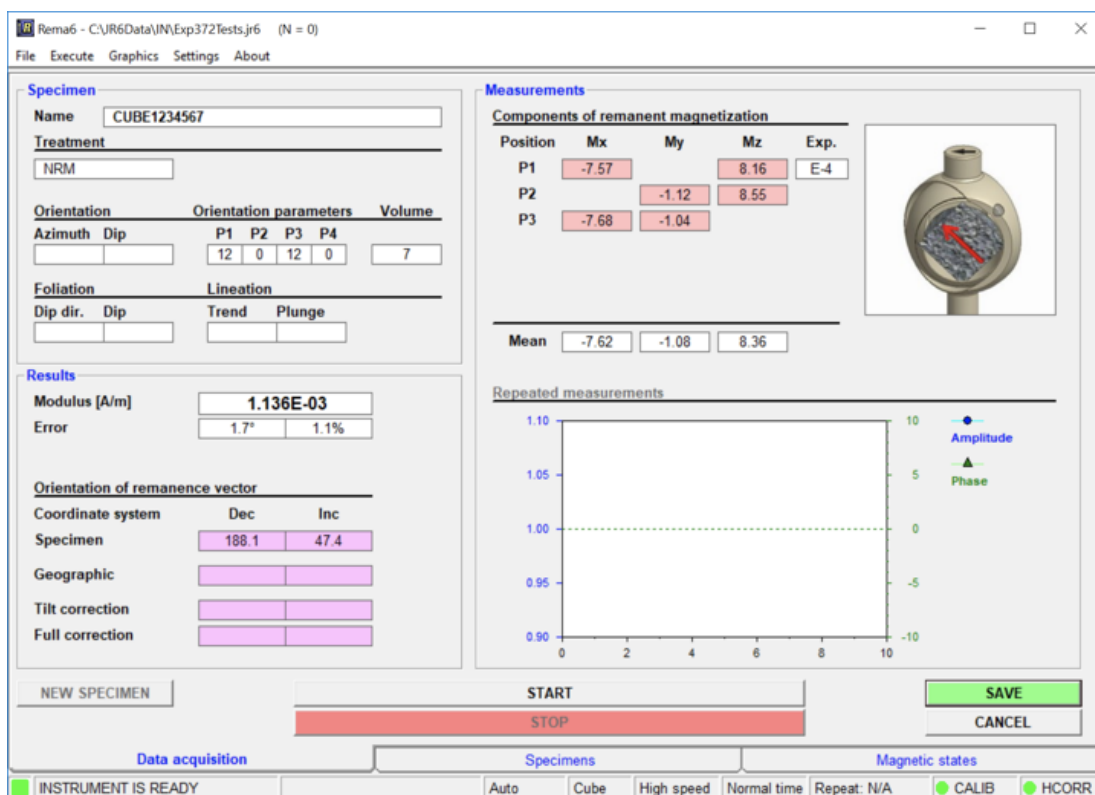

Figure 10: Main screen after sample has been run.
3. Click **New Specimen** in the bottom left corner of the window (Figure 10). This will prompt the New Specimen dialogue box to open (Figure 11).
7. Select **OK** in the dialogue box. The main window will now display the updated sample information (Azimuth, Dip, Name, and Treatment) (Figure 10). Select **Start** at the bottom of the window (Figure 10).
8. When the run is completed, click **Save** in the right hand bottom corner (Figure 10) in order to save the run and continue to the next specimen, or click **Start** to redo the run.